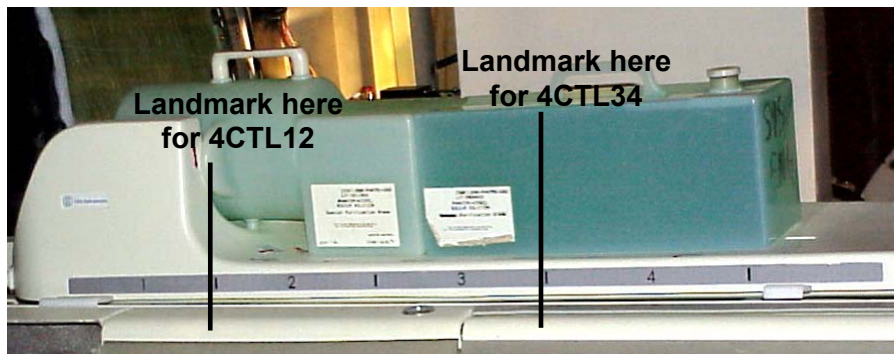

Figure 7: Landmarking for signal and noise scans.
2. Position the phantom set on the coil without the patient pad (see *Figure 7*).
3. Landmark on the vertical line corresponding to the region of interest (see *Figure 7*).